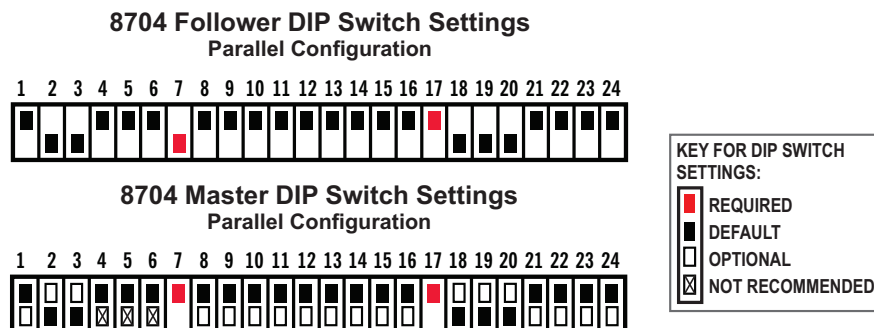

Figure 6.7 – Required DIP switch settings for parallel amplifiers
1. Refer to **Figure 6.7** to configure each amplifier's DIP switches for parallel operation. On the amplifier designated as Follower, **set DIP switch #7 in the DOWN (Follower) position.** On both amplifiers, **set DIP switch #17 in the UP (Electronic Gain Matching ON) position.** Note that other configuration settings controlled by DIP switches can also be selected before operation. In an 8704 multi-amp system, **all settings except for Control Configuration (SW#7) and Electronic Gain Matching (SW#17) are controlled by the Master amplifier.** For these additional configurations, setting of the DIP switches on the Follower amplifier is not required.